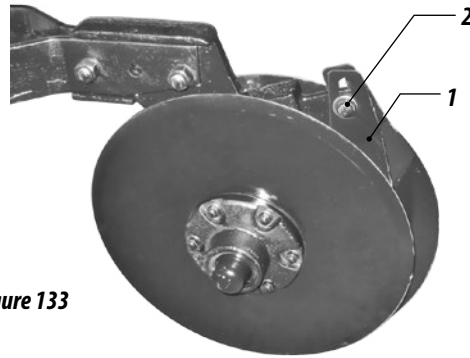

Figure 133
43 - The double discs have cleaners (1) that are flexible and adjustable through the screw (2), to remove the soil that sticks to the discs, figure 133.